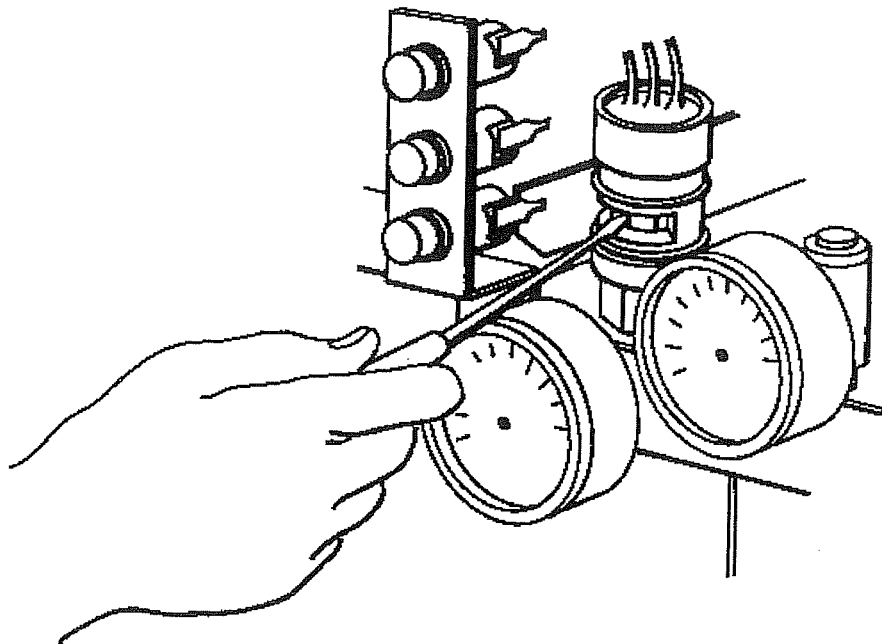

Figure 4-13
5. Use a flat-blade screwdriver to adjust the switch. (Figure 4-13)